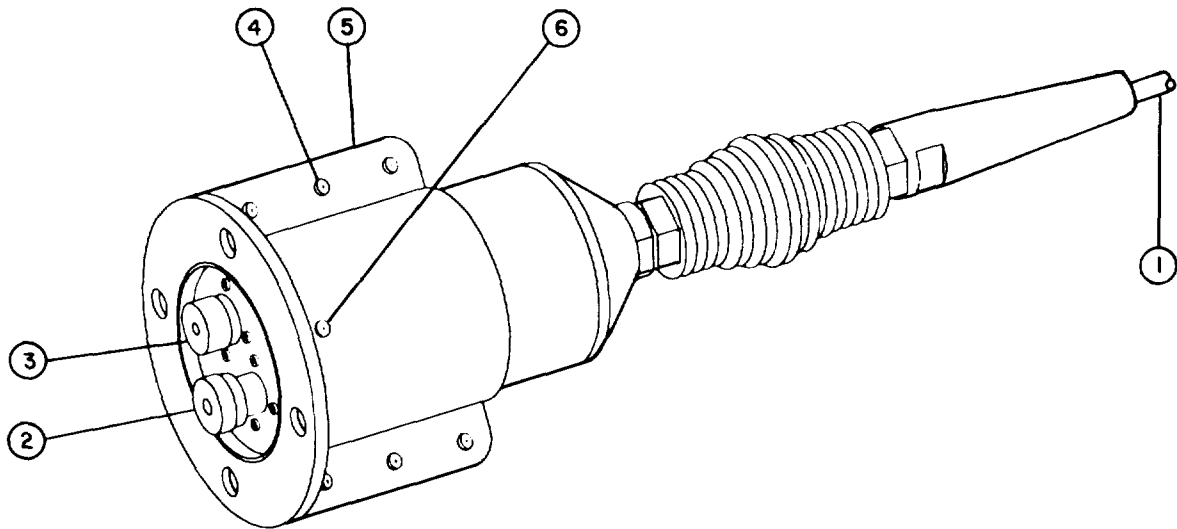

Figure 3-5. AB-1311/VRC-86 Antenna Base, Mounting
- (1) Refer to figure 3-5. Unscrew and remove the whip antenna (1) from the antenna base.
- (2) Disconnect the cable assemblies from J9822 (2) and J9821 (3) on the antenna base.
- (3) Loosen six bolts (4) on vertical flanges (5) of the mounting assembly.
- (4) Remove two screws (6) that secure the antenna base to the mounting assembly.
- (5) Lift the antenna base out of the mounting assembly.